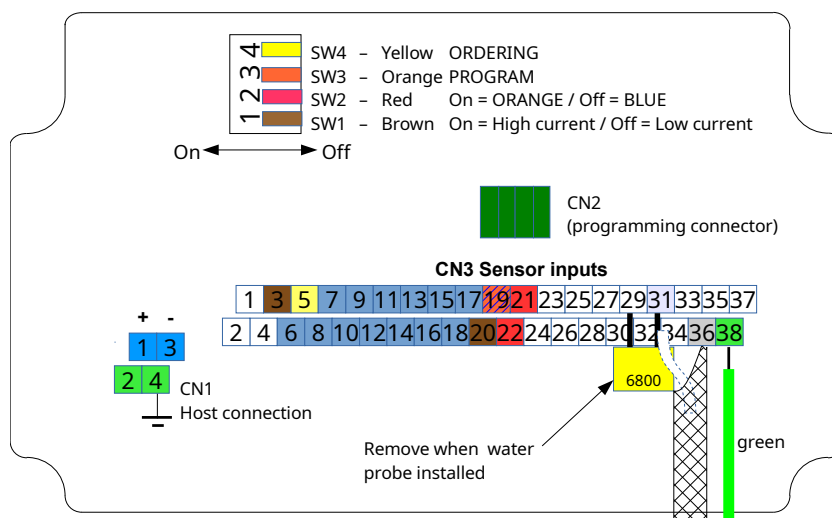

Figure 4: Connection of water probes
- Connect the MTT or VITO MTT Combined water and temperature probes according to Figure 4: Connection of water probes.